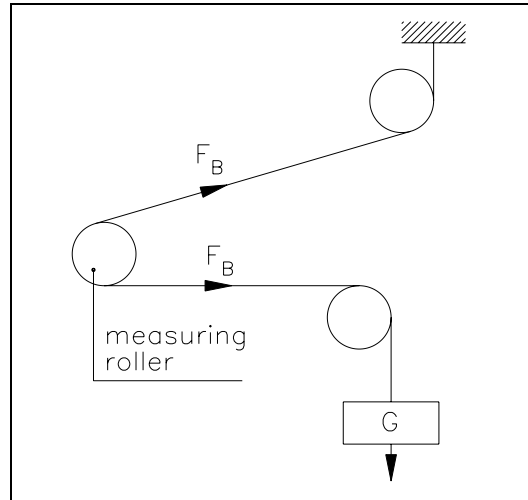

fig. 13: Calibrating the measuring amplifier
The following instructions are referring to a setup and calibration on-site. The material tension will be simulated by a weight (fig. 13).
- Load material or rope with a defined weight (fig. 13)